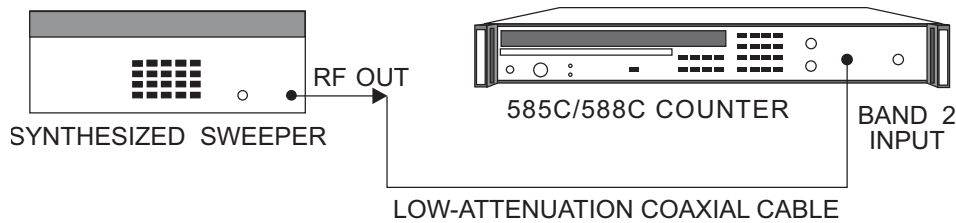

Figure 6-15. Band 2 Center Frequency Test Setup
1. Connect the equipment as shown in Figure 6-15, and turn the equipment on.